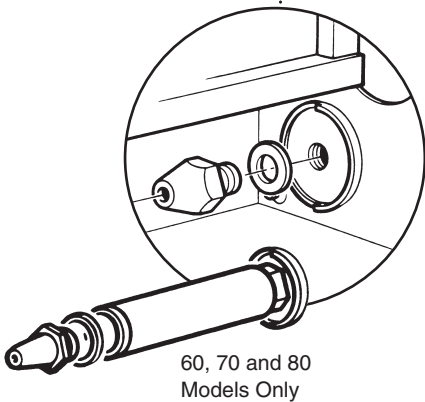

Fig. 104
1. Remove the injector which is screwed into the burner feed manifold (Fig. 104).